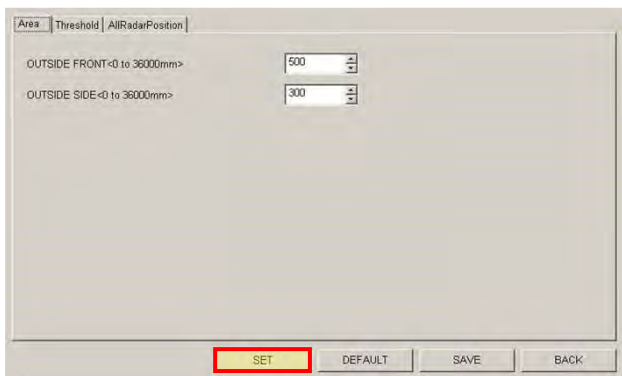

FIGURE 30-44. AREA SCREEN
- 7. Select RADAR SETTING in the maintenance screen (Figure 30-42). In the Area tab, select the SET button. See Figure 30-44.